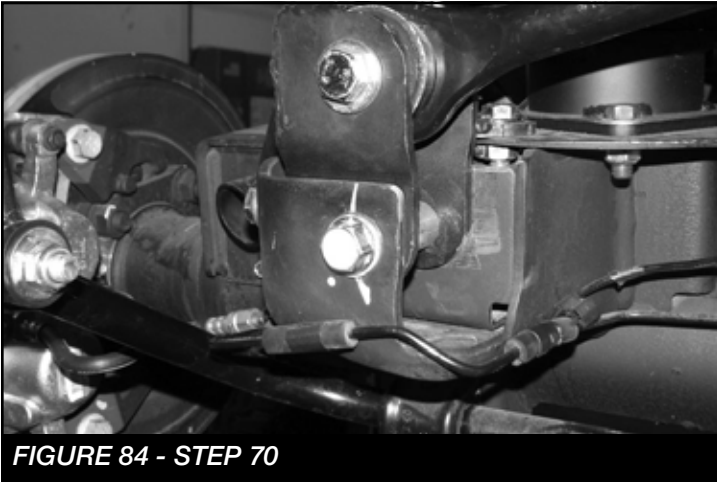

FIGURE 84 - STEP 70
70. Locate the supplied 9/16"-18 x 4" bolt, nut and washers and install the rear track bar into the new location. Torque to 184 ft-lbs. **SEE FIGURE 84**